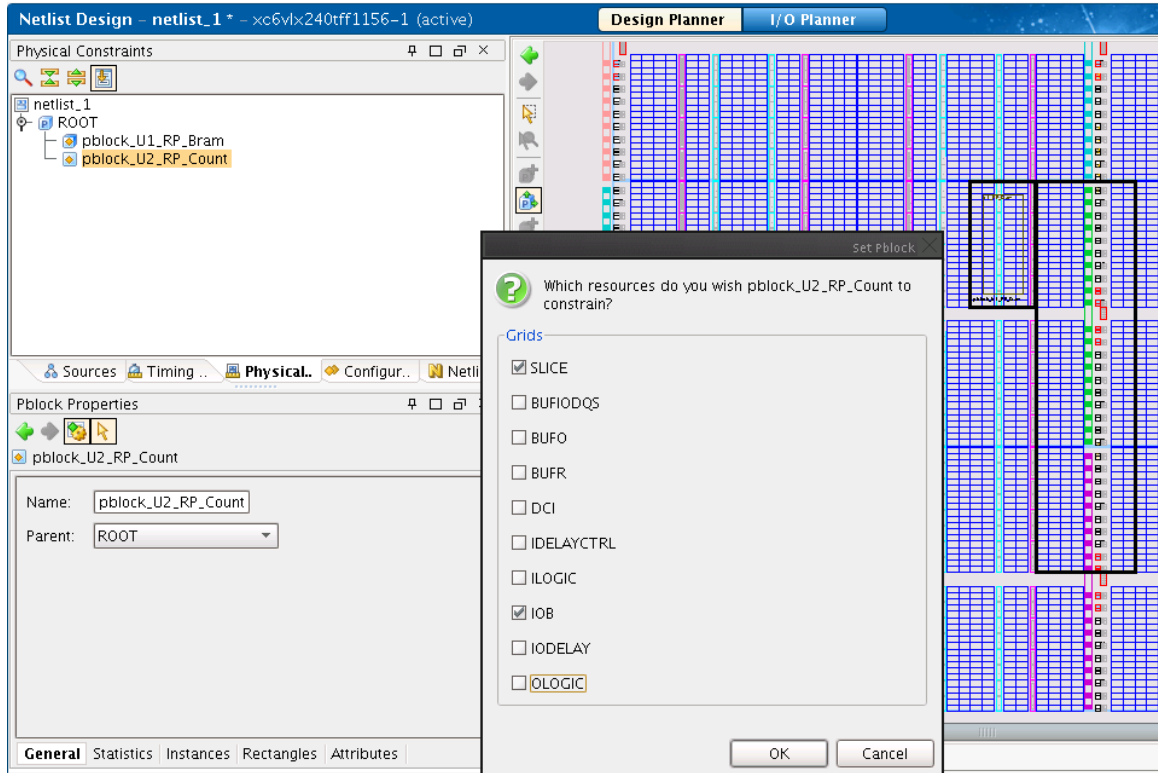

Figure 13: Setting Pblock Resources (pblock_U2_RP_Count)
- 6-2-2.** After drawing the rectangle, select **SLICE** and **IOB** resources for the AG as shown in Figure 13. If the RM had input or output flip-flops (or other input/output logic) then other resources such as ILOGIC and OLOGIC would be included as well. This design does not contain such resources.
- 6-2-5.** Verify the RAMB36 required for U1_RP_Bram is included in the AG Range. Select the pblock_U1_RP_Bram from the Physical Constraints window, and view the Statistics shown in the Pblock Properties window, as shown in Figure 13. Note that the available number of RAMBFIFO36E1 exceeds the required amount.